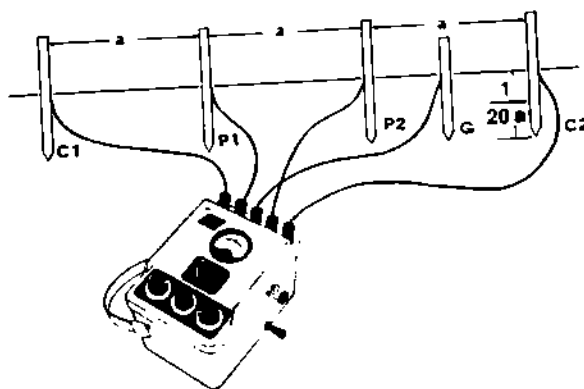

Figure 3-7. Connections for Measuring Earth Resistivity (Guard Terminal is used with the Cat. No. 250220 Earth Tester Only).
d. INSERTING TEST ELECTRODES. General procedures for inserting test electrodes are as follows (refer to Figure 3-7):
2. The instrument is then connected to the four (or five) rods as in Figure 3-7.
7. For the Cat. No. 250220 instrument, a fifth rod may be required at G, midway between C2 and P2 as in Figure 3-7, and is connected to the Guard Terminal.